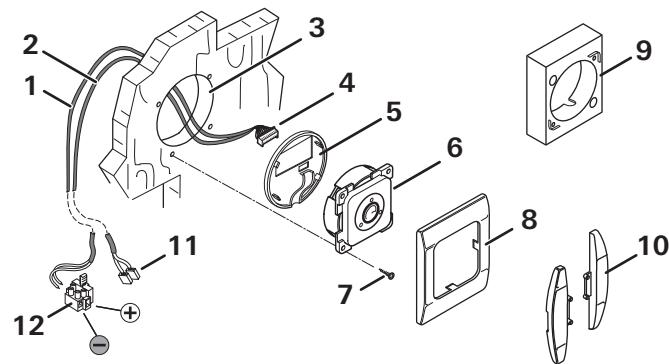

Fig. 3
- ▶ Choose a suitable place for the control panel (Fig. 3) in a clearly visible location.
- ❶ The connector cable is 6 m long. A 5 m extension cable is available if necessary (part no. 34300-01).